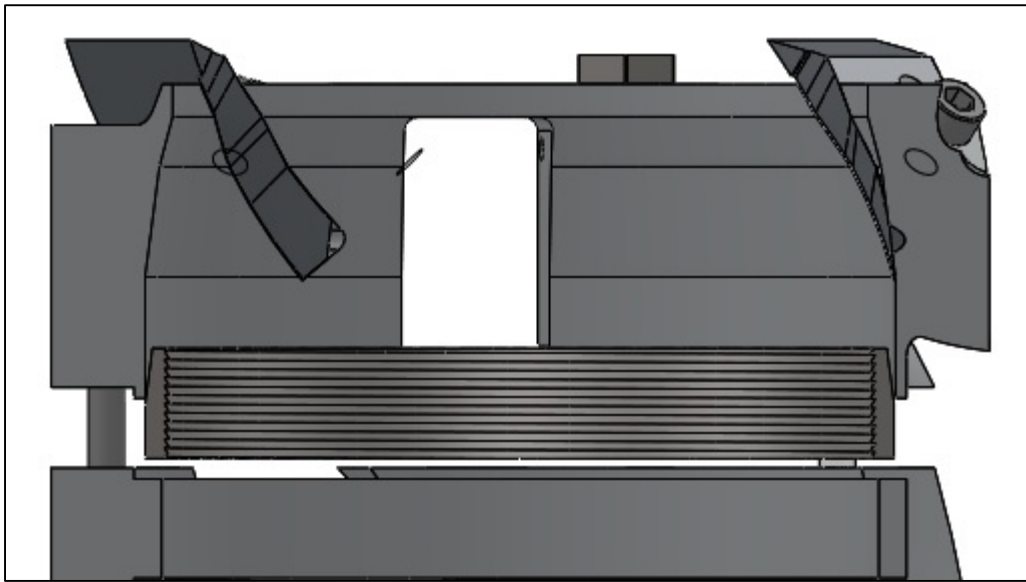

Figure 6: Installing the Collet
7.2.1 Installing a collet (Figure 6):